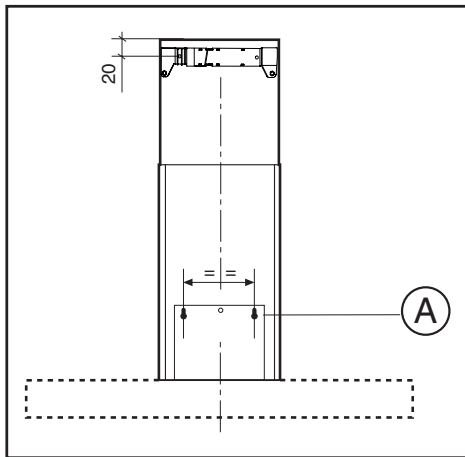
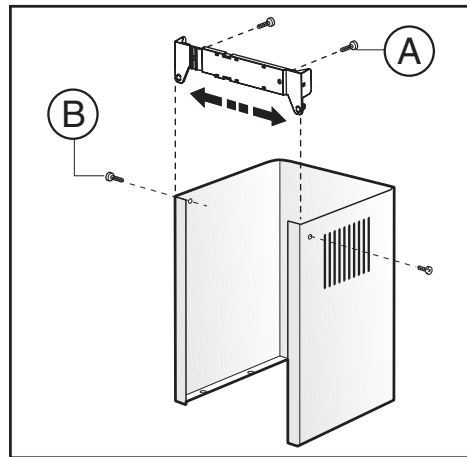
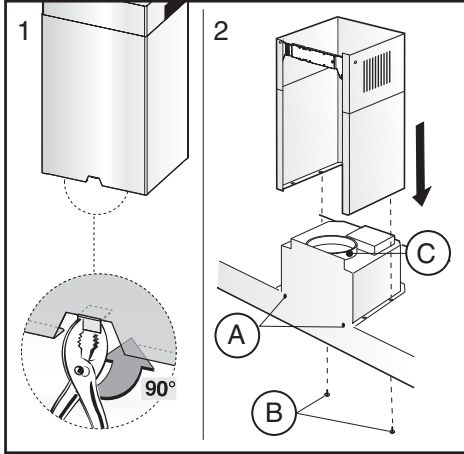
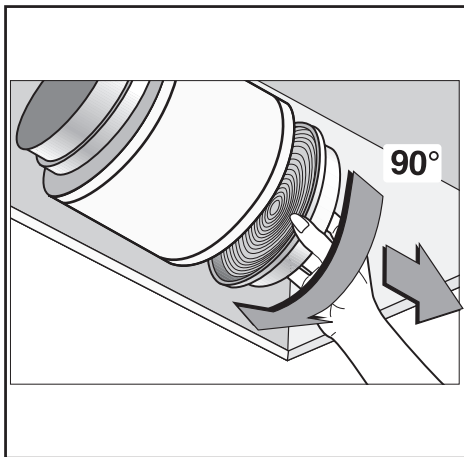

Fig.2
Fig.3
Fig.5
Fig.7
Drill the holes **A** respecting the distances indicated (Fig.2). Fix the appliance to the wall and align it in horizontal position to the wall units. When the appliance has been adjusted, definitely fix the hood using the screws **A** (Fig. 5 - Stage 2). For the various installations use screws and screw anchors suited to the type of wall (e.g. reinforced concrete, plasterboard, etc.). If the screws and screw anchors are provided with the product, check that they are suitable for the type of wall on which the hood is to be fixed.
• **Fixing the decorative telescopic flue - extractor version warning!** Before fixing the appliance in place, take the lower connector and use a pair of pliers to bend the tab inwards, as shown in figure 5, stage 1.
Arrange the electrical power supply within the dimensions of the decorative flue. If your appliance must be installed as an extractor version, make sure an air exhaust hole has been prepared. Adjust the width of the support bracket of the upper flue (Fig.3). Then fix it to the ceiling using the screws **A** (Fig.3) in such a way that it is in line with your hood and respecting the distance from the ceiling indicated in Fig.2. Connect the flange **C** to the air exhaust hole using a connection pipe (Fig. 5 - Stage 2). Insert the upper flue into the lower flue. Fix the lower flue to the hood using the screws **B** provided (Fig. 5 - Stage 2), extract the upper flue up to the bracket and fix it with the screws **B** (Fig.3). Remove the charcoal filters already fitted to the appliance by turning them 90° anticlockwise (Fig. 7).